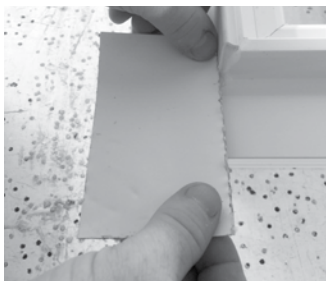
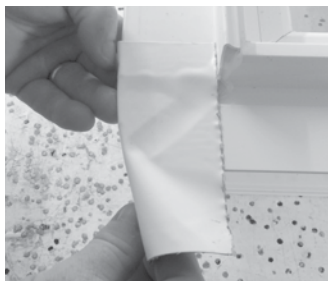
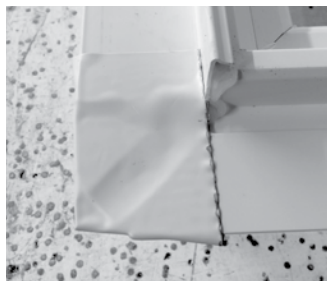

Figure 20
Figure 20a
Figure 20b
- 24.** Clean area of excess caulk where patch will be applied. Remove the release paper and apply adhesive patches to the ends of the mull cap to secure it to the nail fin with approximately $\frac{1}{4}$ of the patch over hanging the end (as shown in **Figure 20**). Once the patch is applied, fold the long side over the back of the nail fin (**Figure 20a**) and then wrap the end to the back of the nail fin (**Figure 20b**).